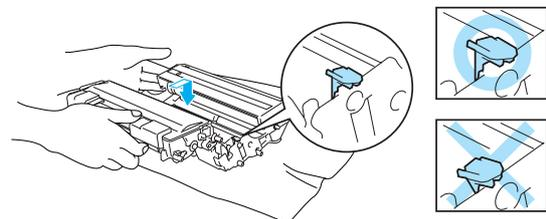

Fig. 5-13
- (9) Put the drum unit assembly back in the printer. Close the front cover of the printer.
- Make sure that the wire cleaner on the drum unit is returned to the home position (▲ mark position) before re-installing the drum unit into the printer, or printed pages may have vertical stripes. (Refer to Fig. 5-13.)